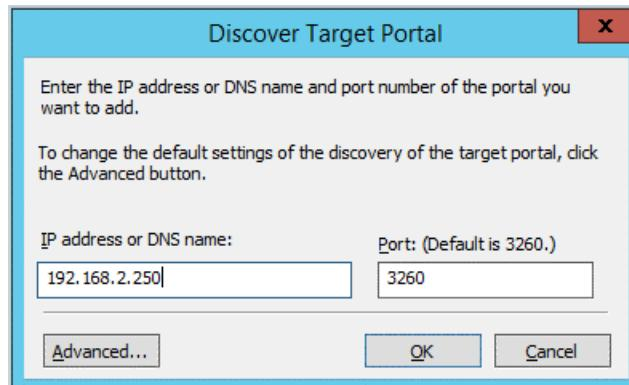

Figure 9-22. Target Portal IP Address
5. In the Discover Target Portal dialog box (Figure 9-22):